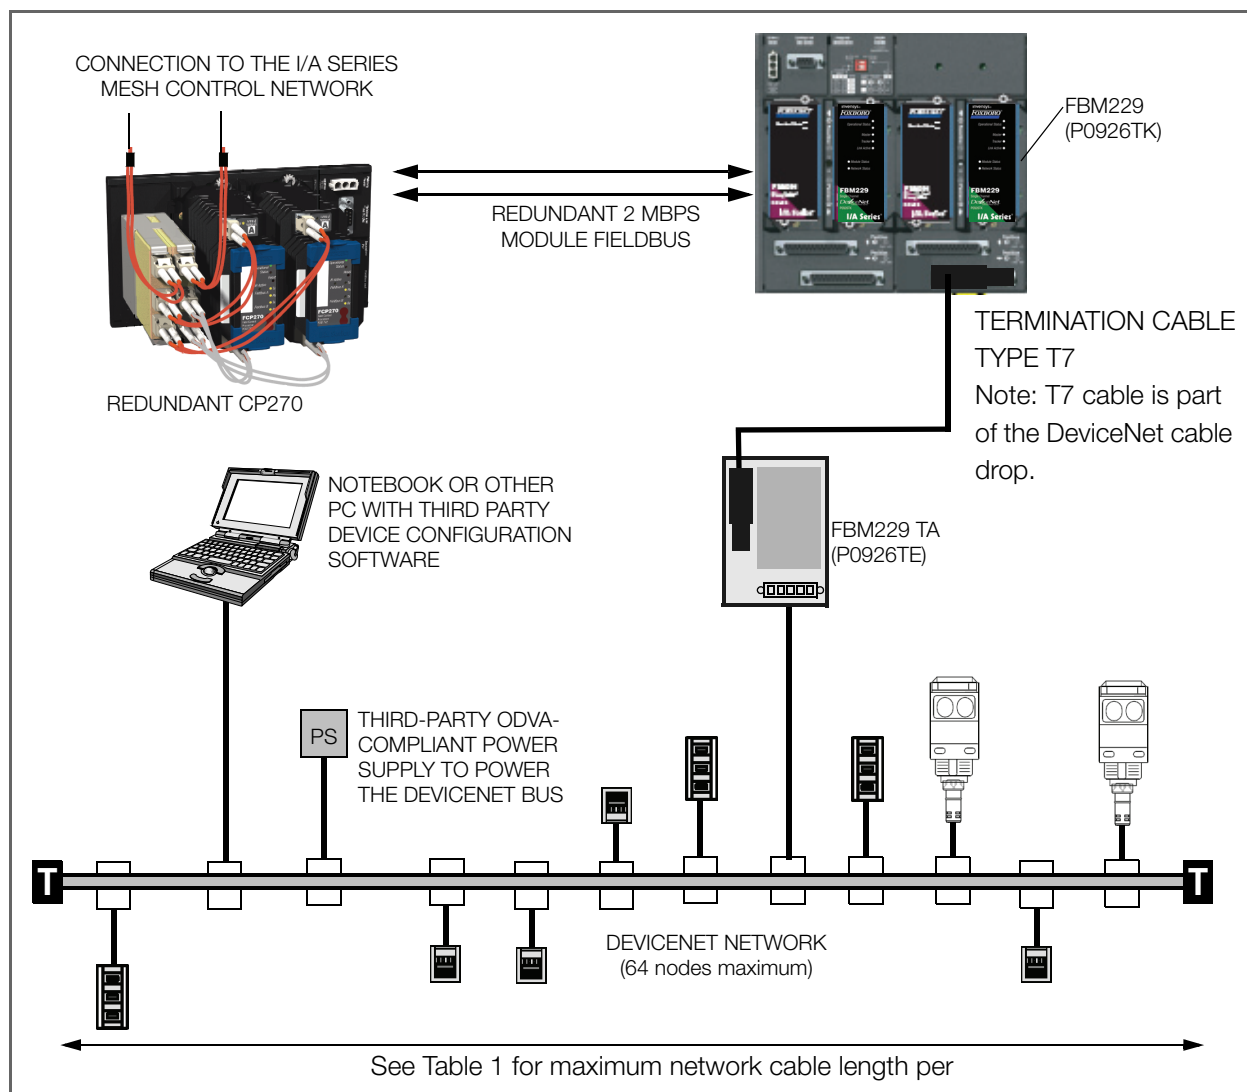

Figure 1. Typical FBM229 Configuration
The FBM229 provides the interface to field devices for either the DIN rail mounted FCP270 Field Control Processor or the rack mounted ZCP270 Z-Form Control Processor. When deployed for use with an FCP270 (as shown in Figure 1), the module is installed in the same baseplate or in an adjacent baseplate, and communicates with the control station over a 2 Mbps Fieldbus. The FCP270, in turn, is connected over a 100 Mbps switched network to other control stations, supervisory applications, system management stations, and other I/A Series control resources.
In addition to the four-position baseplate shown in Figure 1, the FBM can be mounted on any of baseplates described in PSS 21H-2W6 B4, *DIN Rail Mounted Modular Baseplates*.
The FBM229 is connected to the DeviceNet segment via a DeviceNet specific termination cable (Type 7) and a termination assembly (TA), as shown in Figure 1. With this drop, the FBM229 operates as a scanner node on the network and complies with the DeviceNet Communication Adapter profile. See "TERMINATION ASSEMBLY" on page 6 for a description of the Type 7 cable and the TA.
A basic DeviceNet topology is shown in Figure 1, however, numerous other topologies can be employed. Refer to PUB00027R1, *Planning and Installation Manual: DeviceNet™ Cable System* (available at www.odva.org).